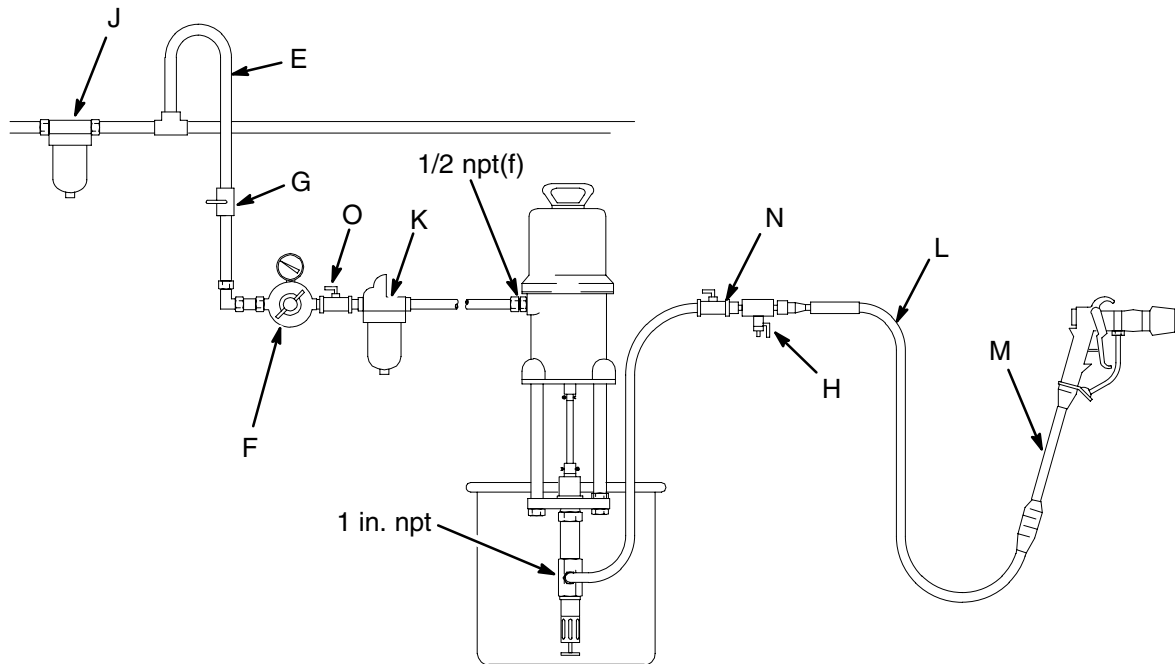

Fig. 2
Fig. 2 is only a guide for selecting and installing system components and accessories. Contact your Graco distributor for assistance in designing a system to suit your particular needs.
Your system should include an air line filter (J) to remove harmful dirt and moisture from your compressed air supply. On the air line (E), each pump should have a bleed-type master air valve (G), an air regulator (F) and shutoff valve (O), and an air line oiler (K) which must be installed downstream from the air regulator. See Fig. 2.